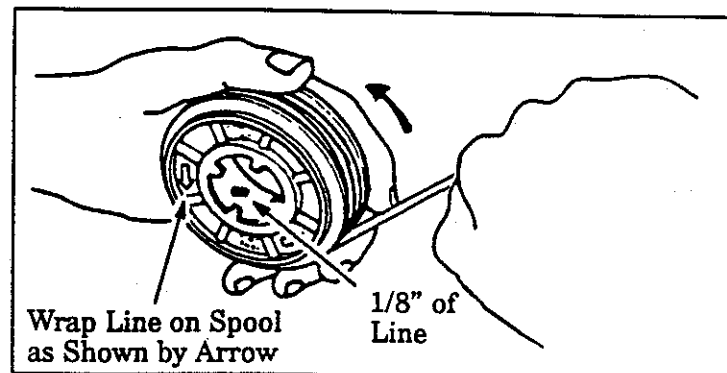

Figure 26
- c. Insert 1/16" to 1/8" of the end of the Line through the hole in the spool. Figure 26. Allow no more than 1/8" line to extend into the inside of the spool.
- d. Wrap the line onto the spool firmly and evenly in a counterclockwise direction as shown by the arrow on the spool. Figure 26.